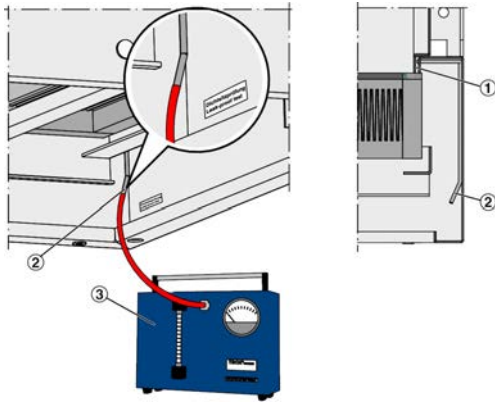

Fig. 9: Sealing integrity test
1. ▶ Connect the sealing integrity test device (Fig. 9/3) to the connection point on the filter (Fig. 9/2).
2. ▶ Apply at least 2000 Pa to the test groove (Fig. 9/1).